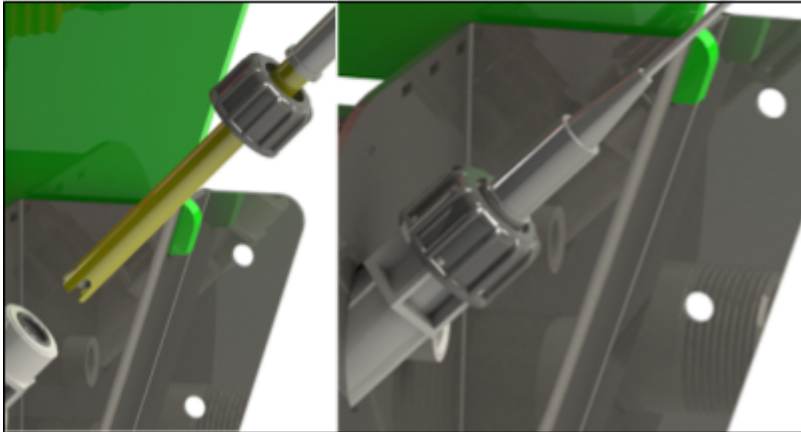

Figure 57.
4. Insert the pH probe through the black nut and O-ring, then insert the pH probe as far as possible into the holder and tighten the black nut (see Figure 57).